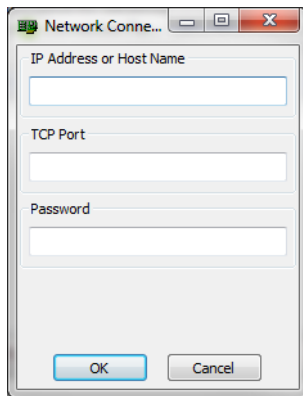

Figure 12: Network Connection Dialog Box
4. Specify the network settings for your receiver from the **Network Connection** dialog box (Figure 12):